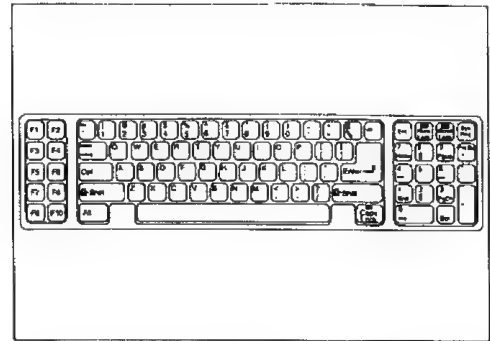

Fig. 27
1. After clearing the previous entries for the screen information fields, use the alpha keys to type the desired information in fields (Fig. 27);